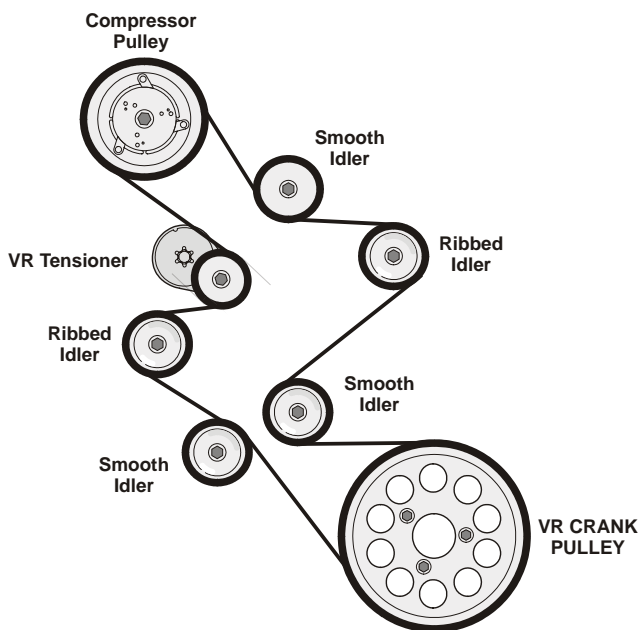

Figure 3.9
- ☐ Install the VR compressor belt (Figure 3.9).